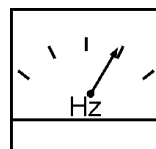

Figure 41. Frequency Meter
4. The generator's frequency meter (Figure 41) should be displaying the 60 cycle output frequency in **HERTZ**.